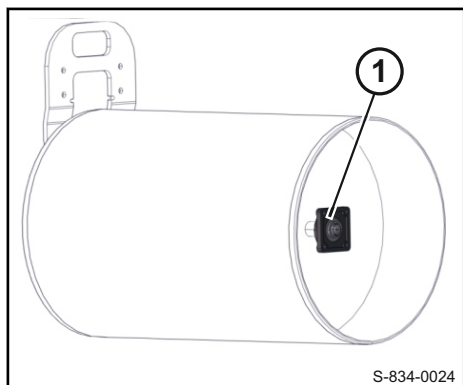

Fig. 262
1. Slide the travel bearing 1 ↗ Fig. 262 onto the shaft.